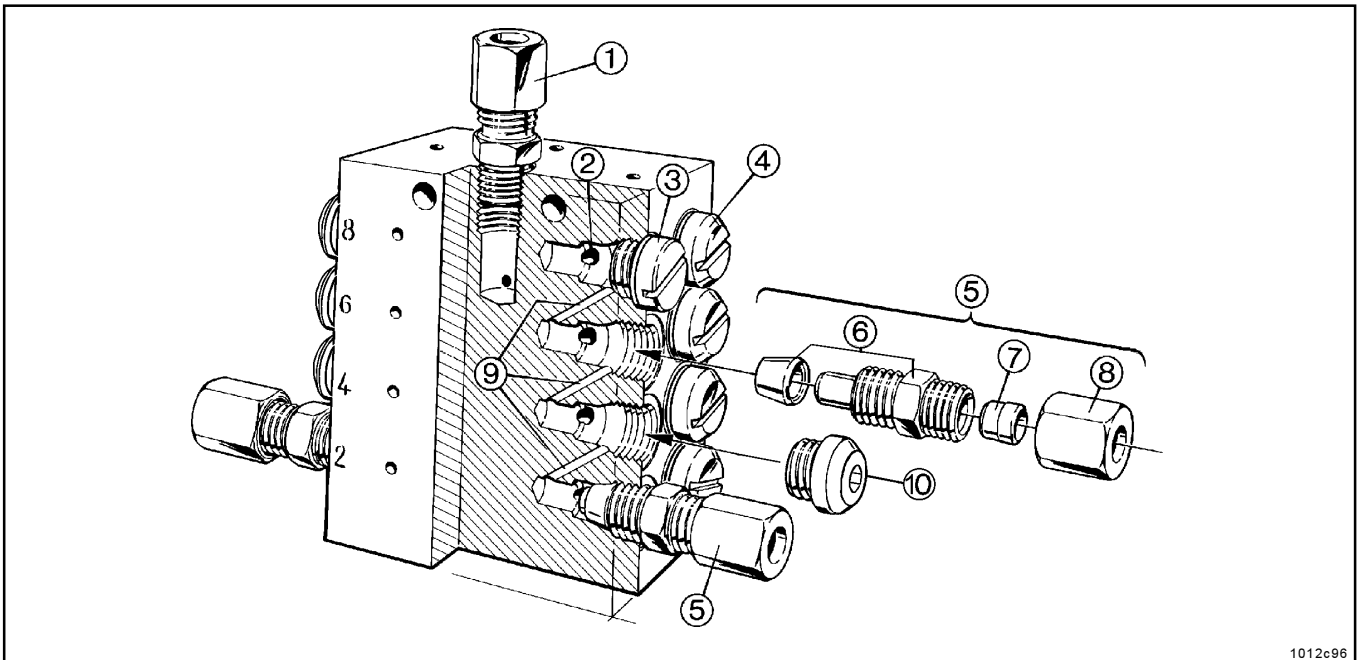
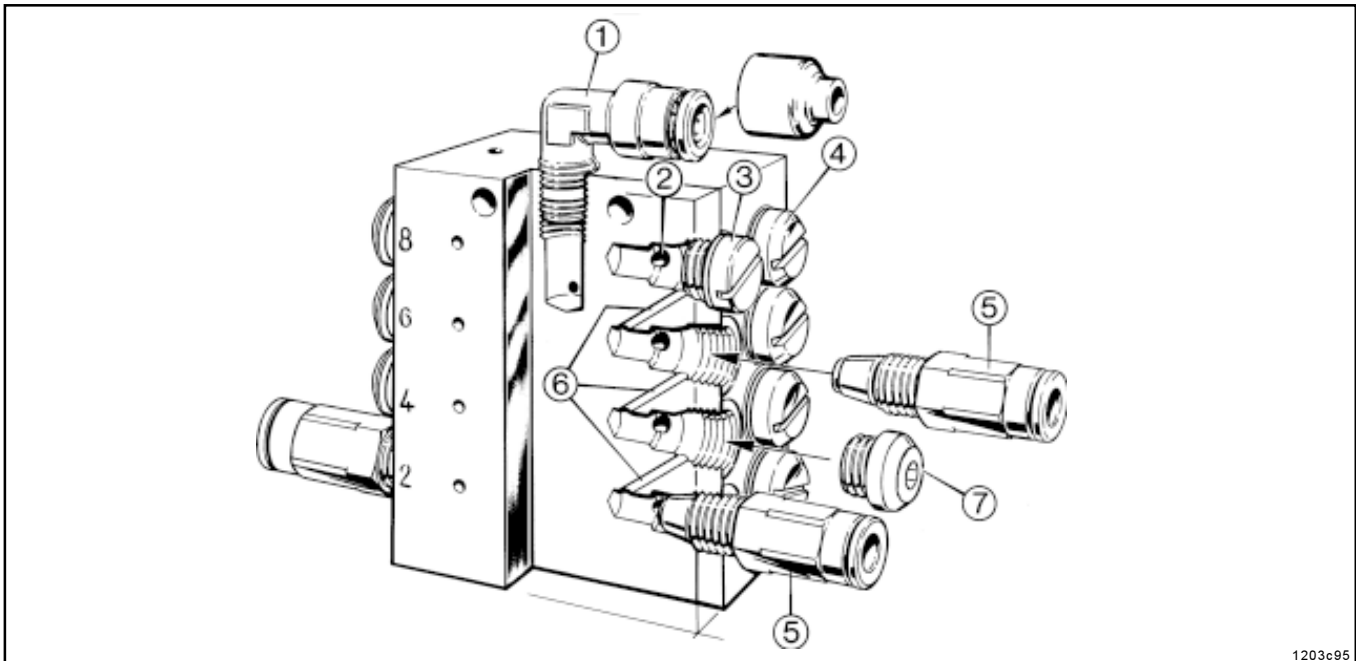

Fig. 19 - Install the outlet fittings and closure plugs in accordance with the dosage
Fig. 20 - Install the push-in type outlet fittings and the closure plugs in accordance with the dosage
- Install an outlet fitting assembly 5 (M 10x1) in each outlet borehole which will be used. Refer to Fig. 19, 20, 21.
Note: Never use closure plug 12 (Fig. 19) or 7 (Fig. 20, 21) as a piston closure plug 4 (G 1/8) on older models of metering-devices.
- **Never use** closure plug 12 (Fig. 19) or 7 (Fig. 20, 21) **as a piston closure plug 4.**
Important: Always use valve body (Fig. 19) in conjunction with clamping ring.
- Clamping ring (Fig. 19) closes the junction channels 9 to the other outlet channels.